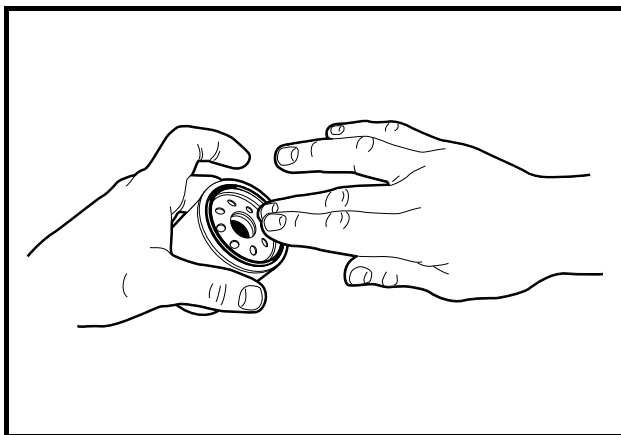

**Figure 10-6 Compress Snubber Downward**
8. Place a floor jack under the rear receiver hitch where the hitch and body frame are fastened. Lift the vehicle body slightly, allowing the front of the engine to tilt slightly downward. This will allow the oil filter more clearance under the electrical component box (**Figure 10-6**).